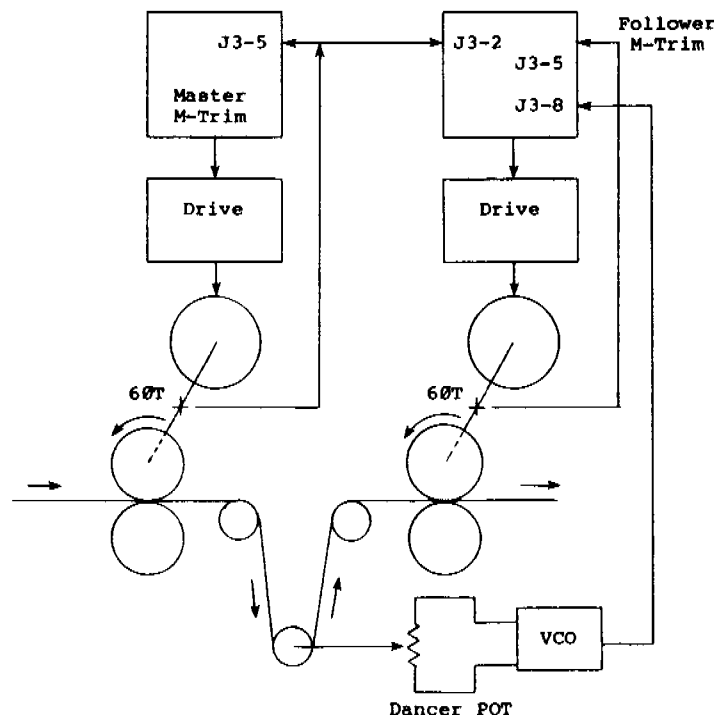

Figure 8-1: Web Process illustrating Offset Format
Figure 8-1 below illustrates a simple web process. Note that this application contains a loop which is controlled by a dancer POT. As the M-Trim cannot accept an analog signal directly, the wiper of the dancer pot must first go to the input of a voltage controlled oscillator. The frequency output of the oscillator is then applied to J3 pin 8 of the Follower M-Trim. Depending on this output value, the M-Trim adjusts the speed of the Follower Motor up or down as required to maintain the dancer POT position.
- o Nip rolls in Figure 8-1 are 1 foot in circumference